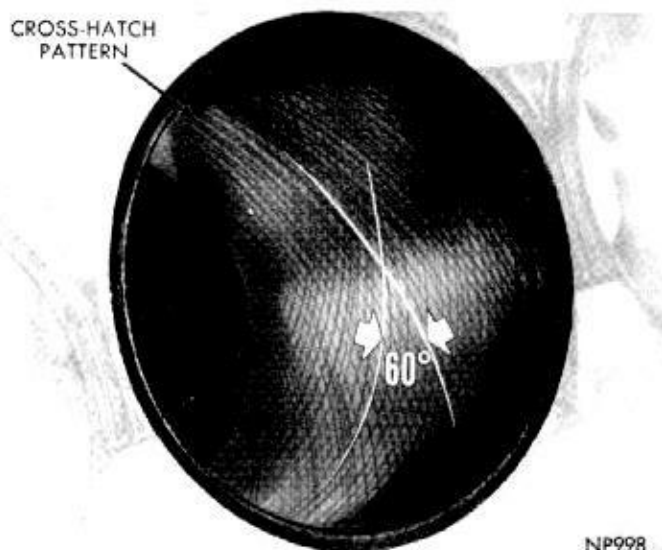

Fig. 34—Cross Hatch Pattern
(1) Used carefully, the cylinder bore resizing hone C-823 equipped with 220 grit stones, is the best tool for this job. In addition to deglazing, it will reduce taper and out-of-round as well as removing light scuffing, scoring or scratches. Usually a few strokes will clean up a bore and maintain the required limits.
(2) Deglazing of the cylinder walls may be done using a cylinder surfacing hone, Tool C-3501, equipped with 280 grit stones (C-3501-3810) if the cylinder bore is straight and round. 20-60 strokes depending on the bore condition will be sufficient to provide a satisfactory surface. Inspect cylinder walls after each 20 strokes. Use honing oil C-3501-3880 or a light honing oil available from major oil distributors. **Do not use engine or transmission oil, mineral spirits or kerosene.**
(3) Honing should be done by moving the hone up and down fast enough to get a cross-hatch pattern. When hone marks intersect at 60° , the cross hatch angle is most satisfactory for proper seating of rings (Fig. 34).
(4) After honing, it is necessary that the block be cleaned again to remove all traces of abrasives.